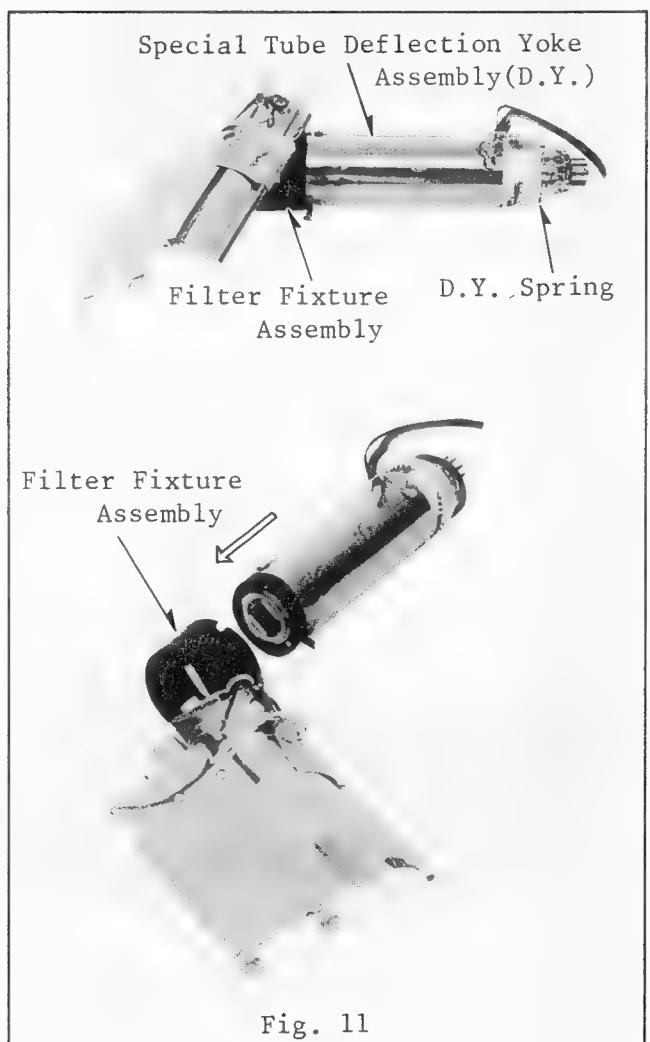

Fig. 11
3-7. Remove the special tube D.Y. assembly with the preamp. shield covered (see Fig. 11).
- 3-8. Remove the filter fixture assembly and the D.Y. spring from the special tube D.Y. assembly (see Fig. 11-A/B).